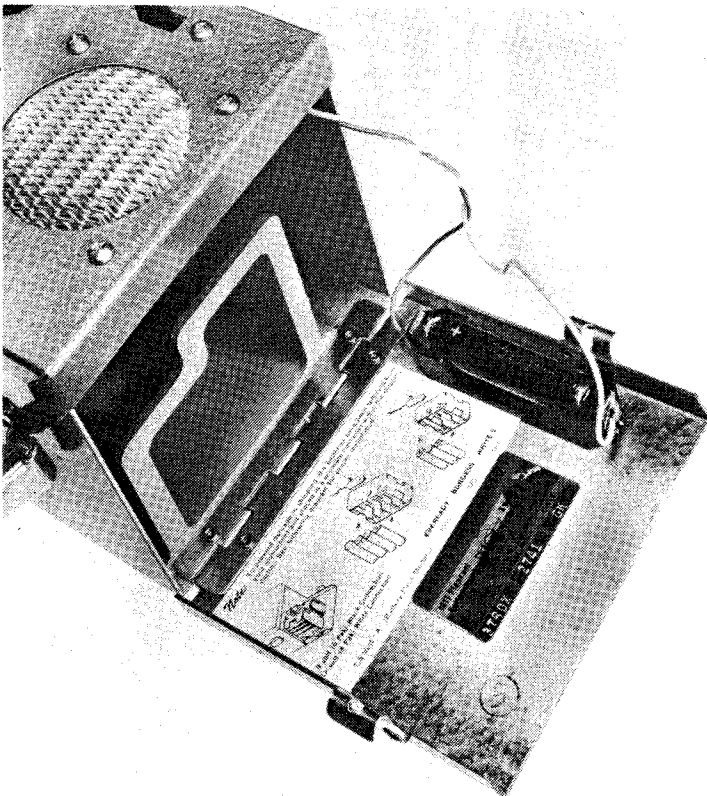

Figure 11
The Coinmaster Supreme has a single-battery tester inside the battery access door. Single batteries may be removed from the battery packs and tested in this tester as shown in Figure 11. When testing single batteries in this way, the Power Switch (1) has to be in the "Off/1-cell" position.